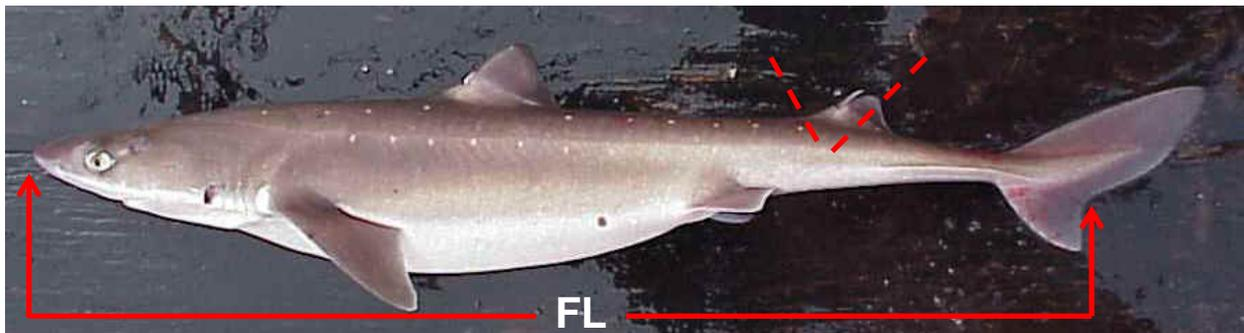

Figure 13 Spiny dogfish fork length and second dorsal spine collection
To determine the sex of a shark, look for the presence of claspers around the cloaca. Male sharks have claspers, females do not (*see Figure 12*). For spiny dogfish, measure the fork length (FL) from tip of the snout to the fork in the tail (*see Figure 13*).
For spiny dogfish spine collection, cut the entire **second** dorsal spine off, making sure to get all the way to the base of the spine. The easiest way to do this is to cut down at an angle just in front and behind the spine making a wedge (*see Figure 13*). Leave the flesh attached, place the spine in a barcode-labeled bag, and freeze. Record the barcode number, sex, fork length and weight on your deck sheet and enter the data into ATLAS as specimen code ‘6’ (spines). Store the spines in a clearly labeled bag in the freezer, to ensure that they all return to debriefing with you.